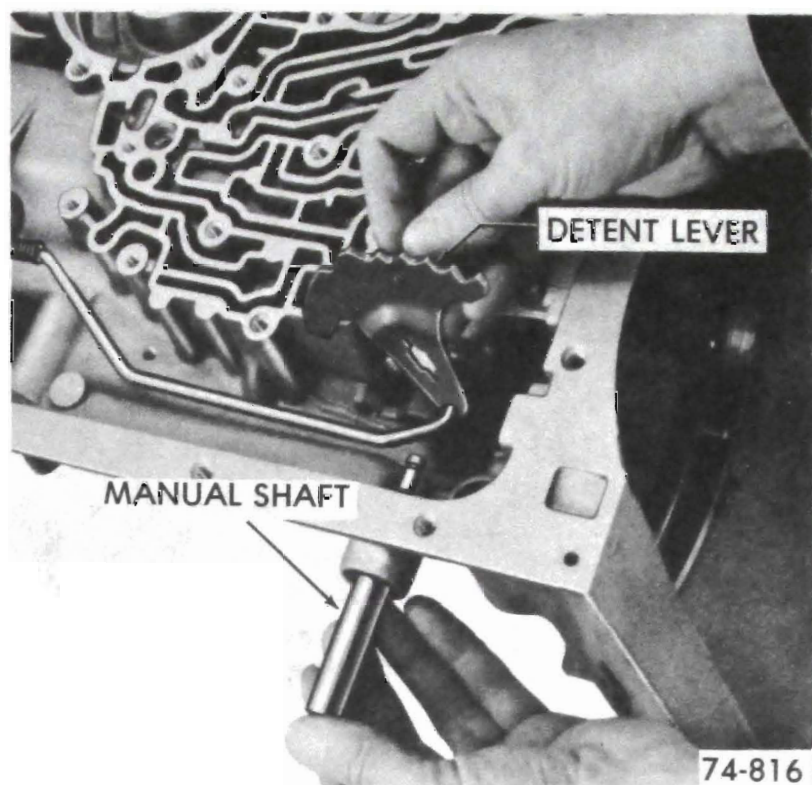

Figure 76-262
4. Install the manual shaft through the case and detent lever. See Figure 76-262.